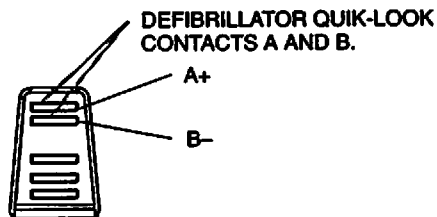

Figure 3-4 Defibrillator slide contacts
- 3 Measure the voltage at the slide contact pins A+ and B- (see Figure 3-4) with the DMM (observe proper polarity). Confirm that the voltage is -1.2 Vdc ± 0.2 Vdc.